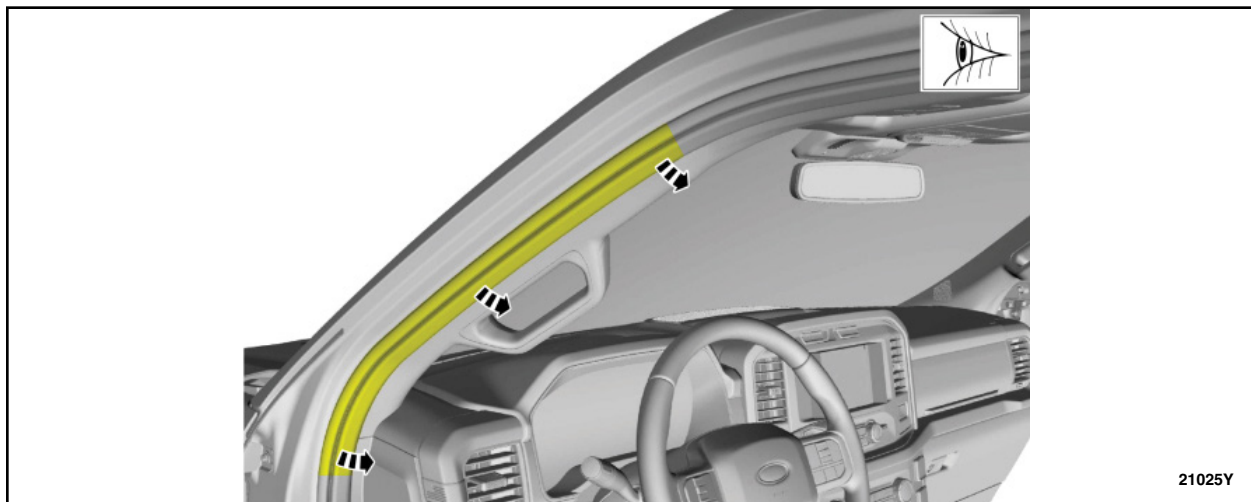

FIGURE 16
16. When installing, inspect and position the front door weather strip lip so that it overlaps the top of the A-pillar trim panel. See Figure 16.